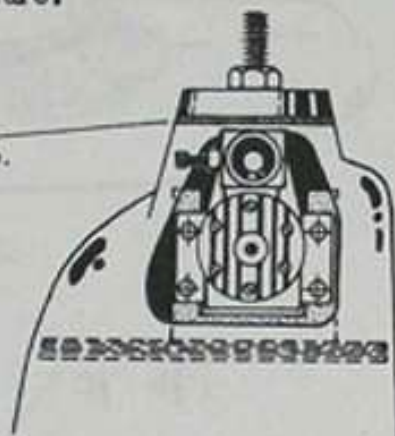

Fig. 19
23. Using a Dremel tool, cut away front side of fuselage to clear engine. Make a 2-1/4" dia. ring from 1/16" thick balsa. Drill a hole through it's center to tightly fit your engine's prop shaft. Mount engine in the motor mount and insert into the engine compartment. Place balsa ring on the prop shaft and tighten the rear plate of a Goldberg 2-1/4" spinner onto it. Hot Stuf the ring sparingly to the fuselage as in figure 19. Coat rear of the motor mount with 5-minute epoxy. Insert firewall through the wing saddle opening and press it against the motor mount. Note that the engine has a 2° offset built in (figure 20). Glue firewall to fuselage at several places with 5-minute epoxy. When cured, remove engine leaving the motor mount in place. Securely glue the firewall to the fuselage with slow-drying epoxy and fiberglass cloth. When the firewall has cured completely, drill holes through the motor mount into the firewall and install mounting bolts and blind nuts.